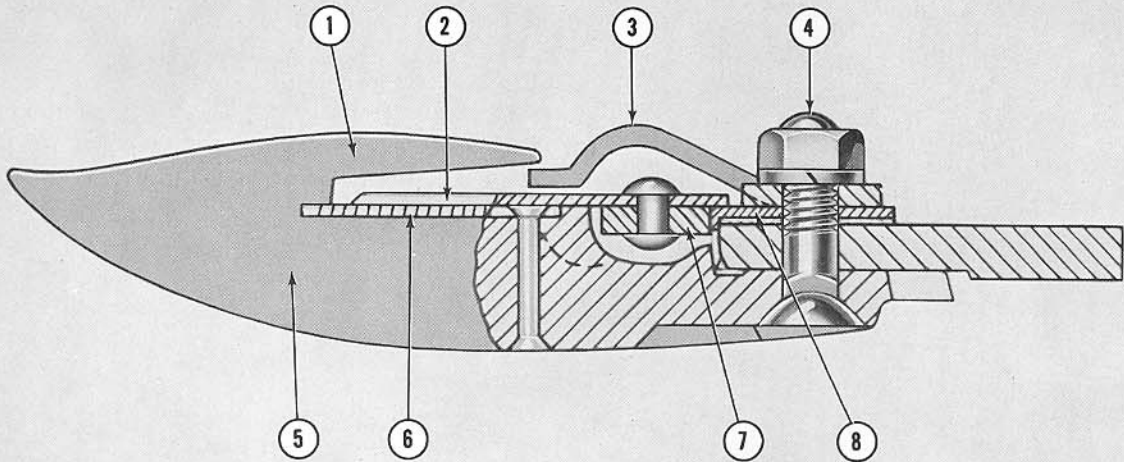

Figure 24
Knife Guards: Align the guards (5), Figure 24, by striking the forward end up or down with a hammer until the ledger plates (6) are flush with the knife sections (2). The knife guard lip (1) should be above the knife clip (3) and kept straight as shown in Figure 24.
Knife Clips: The knife clips (3), Figure 24, should hold the knife sections down on the ledger plates (6) without binding the knife sections. Adjust by removing the knife and striking the forward end of the clip up or down.